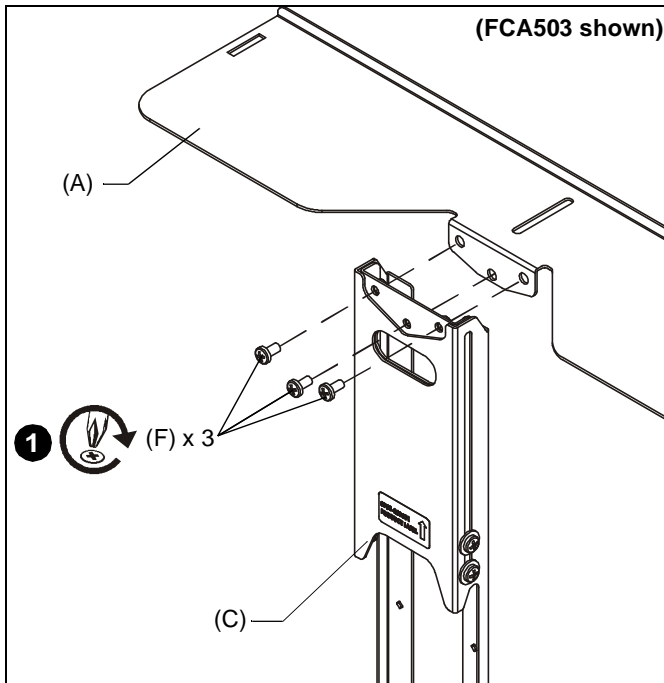

Figure 1
1. Attach shelf (A) to upright (C) using three 1/4-20 x 1/2" Phillips pan head machine screws (F). (See Figure 1)